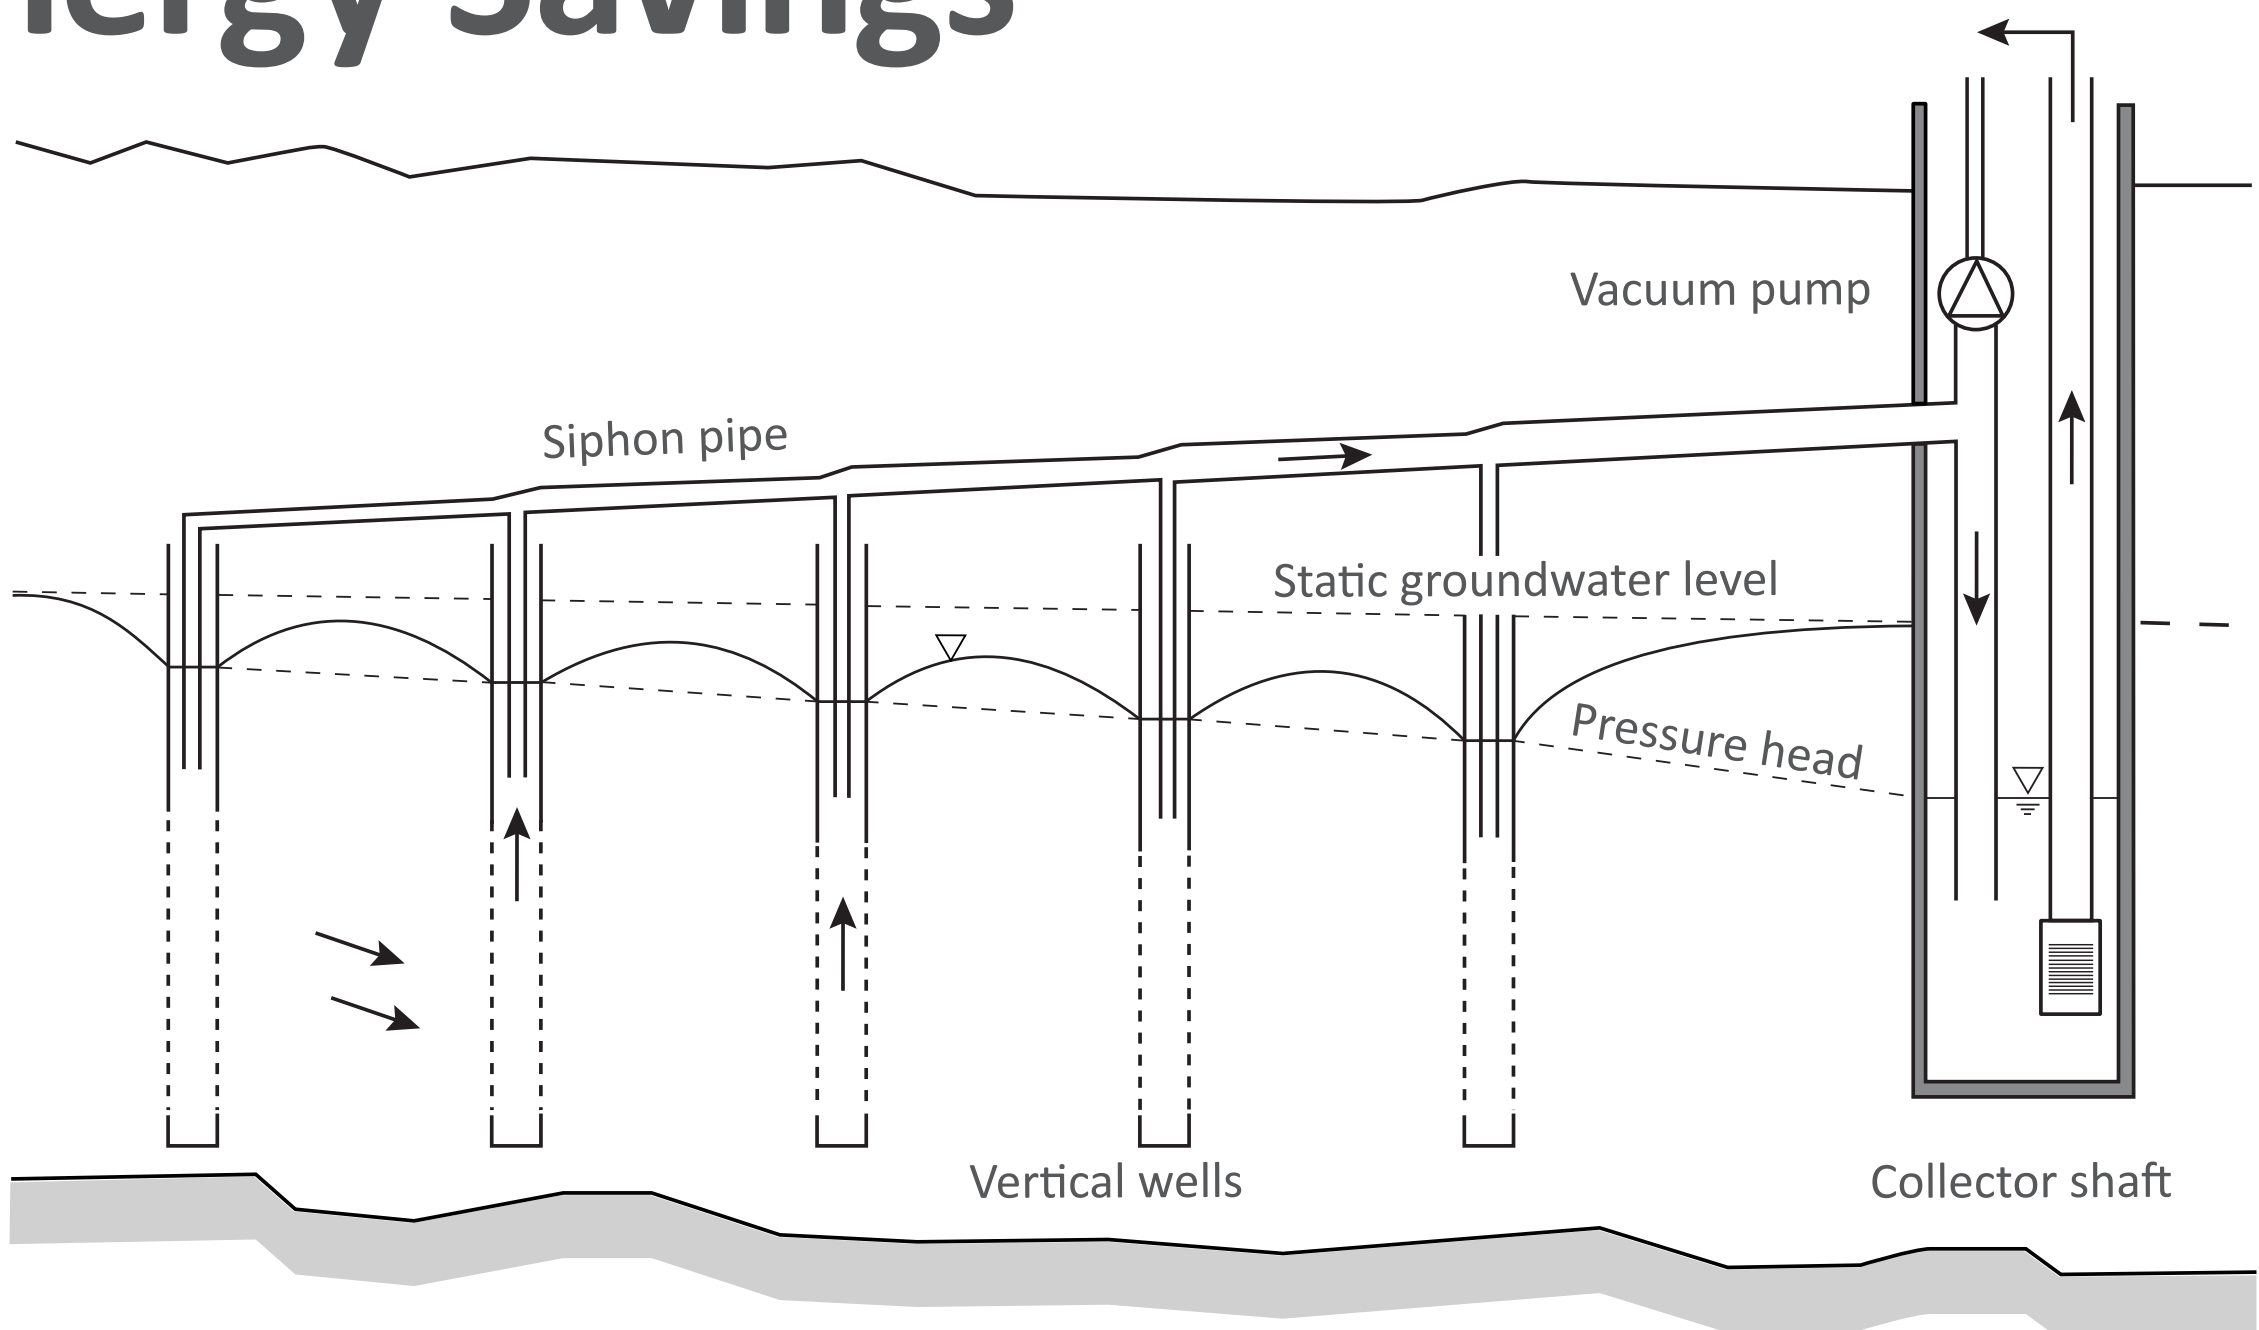

Fig. 3: Siphon well system
- Evaluation of energy saving through siphon wells (Fig. 3)